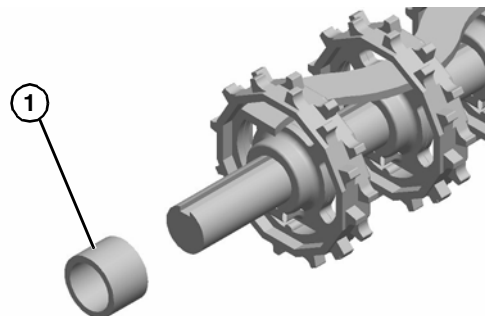

Figure 59
8. Slide off drive sprocket spacer (**Figure 59, item 1**).